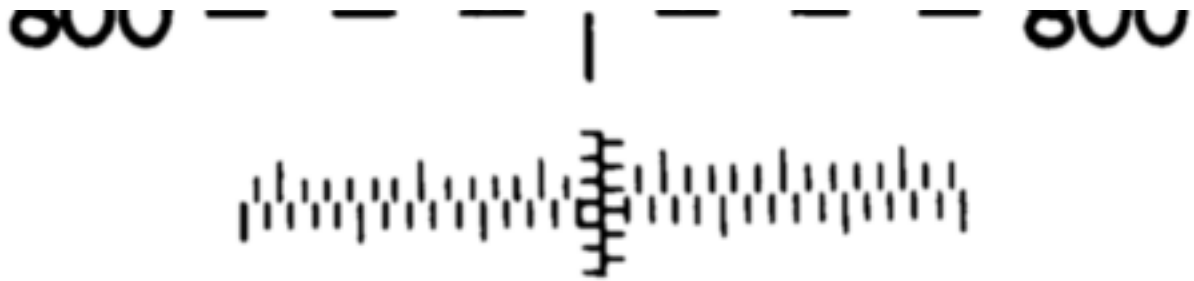

Figure 39. Half stadia picture.
(1) Ability to accurately estimate range is essential to achieve first round hits. The length of time available to fire is in many cases limited; therefore, quick and accurate determination of range is extremely important.
(2) The methods used to determine range to a given target are:
38). These lines are developed from the mil relation formula and are designed to enable the gunner to estimate range to targets having a 10- or 20-foot dimension. Most tanks are approximately 10 feet wide and 20 feet long. To estimate range, the gunner adjusts the lay of the rifle until the target exactly fits between the stadia lines. The point on the vertical (range) line of the reticle, that corresponds to the center of mass of the target, indicates the range. The target in figure 38 is at a range of 275 meters. On targets showing more of the flank than the front, a full stadia picture is used. If more of the front than the flank is shown, a half stadia picture is necessary (fig. 39). It is important to remember that a deflection adjustment must be made from a half stadia picture to obtain the correct sight picture for target engagement.